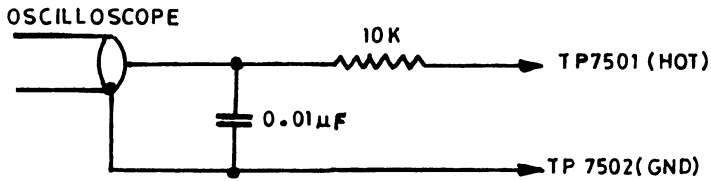

Fig. 11.26
2. Now connect the oscilloscope to TP 7501 (HOT) and TP 7502 (GND) through the filter. (Fig. 11.26)